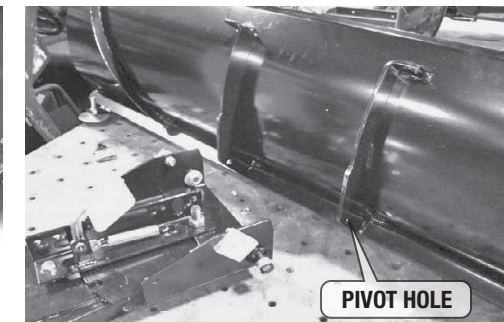

fig. 2
- 1 Align push tube and blade as shown in figure 2.